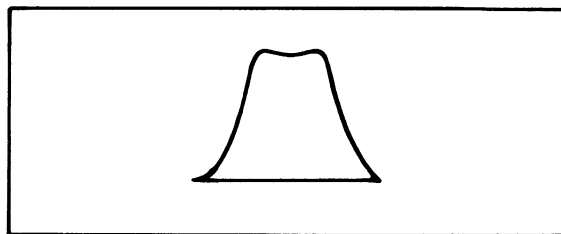

Figure 6-6. Typical Appearance of Detected Output with Sweep Generation Input
- f. Figure 6-6 shows a typical "front end" frequency response obtained during sweep frequency measurement. The somewhat saddle-backed shape is typical of slightly over-coupled tuned circuits, and of properly adjusted stagger-tuned channels. Become familiar with setting up such a display on a TV set known to be good. Only with the technique perfected can one be fairly sure that an improper display is the fault of the set. A minor departure usually can be remedied by